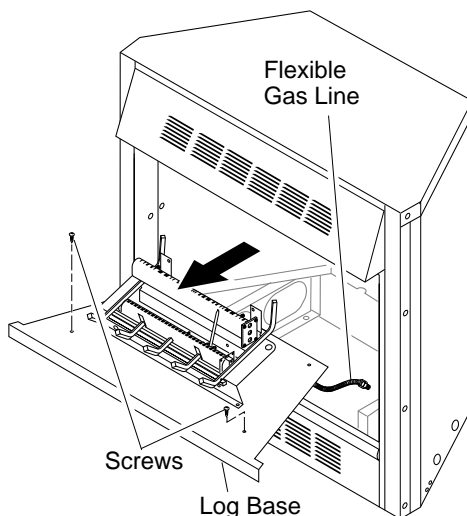

Figure 16 - Removing Log Base from Fireplace
3. Remove screws that attach log base assembly to fireplace. Carefully lift up log base assembly and remove from fireplace, taking care to pull flexible gas line through the access holes (see Figure 16).